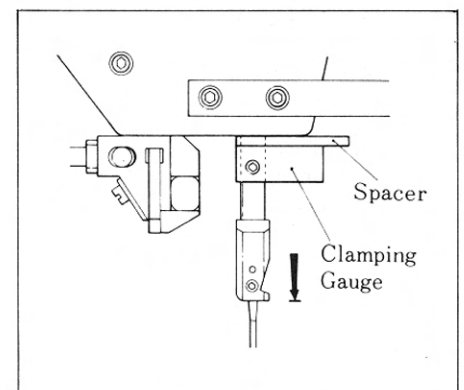

Figure 6b
- (h) With the needle bar at bottom dead center, install the gauge onto the needle bar flush against the underside of the machine head (see Figure 6b). The clamping section of the gauge should be under the spacer section of the gauge.